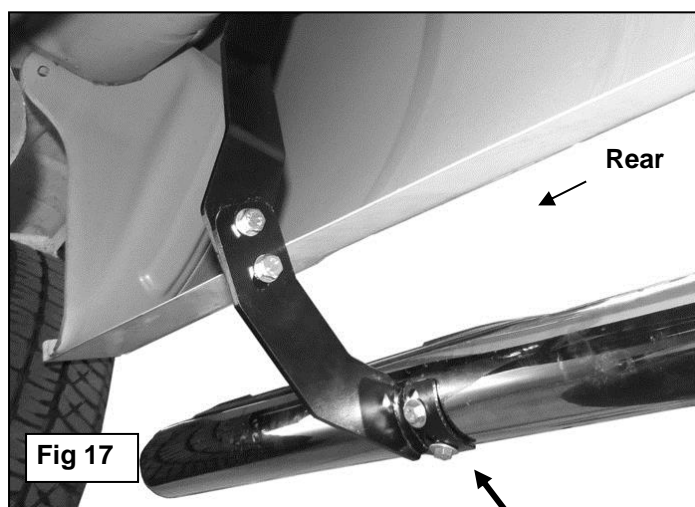

Fig 17
10. Bolt the Sidebar to the Center, Rear and Bed Mounting Brackets with (6) 8mm Hex Bolts, (6) 8mm Lock Washers and (6) 8mm Flat Washers, (**Figure 17**). Do not tighten at this time.